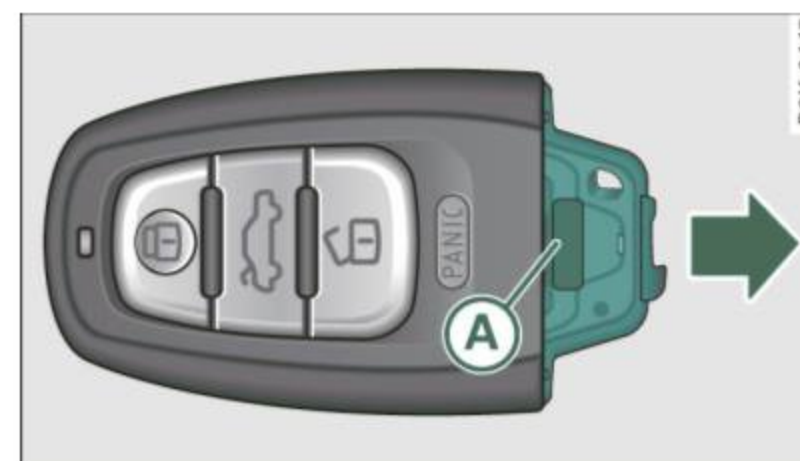

Fig. 28 Remote master key: Removing the battery holder
- Press the release button **(A)** ⇒ *page 39*, fig. 28 on the battery holder and at the same time pull the battery holder out of the master key in the direction of the arrow.